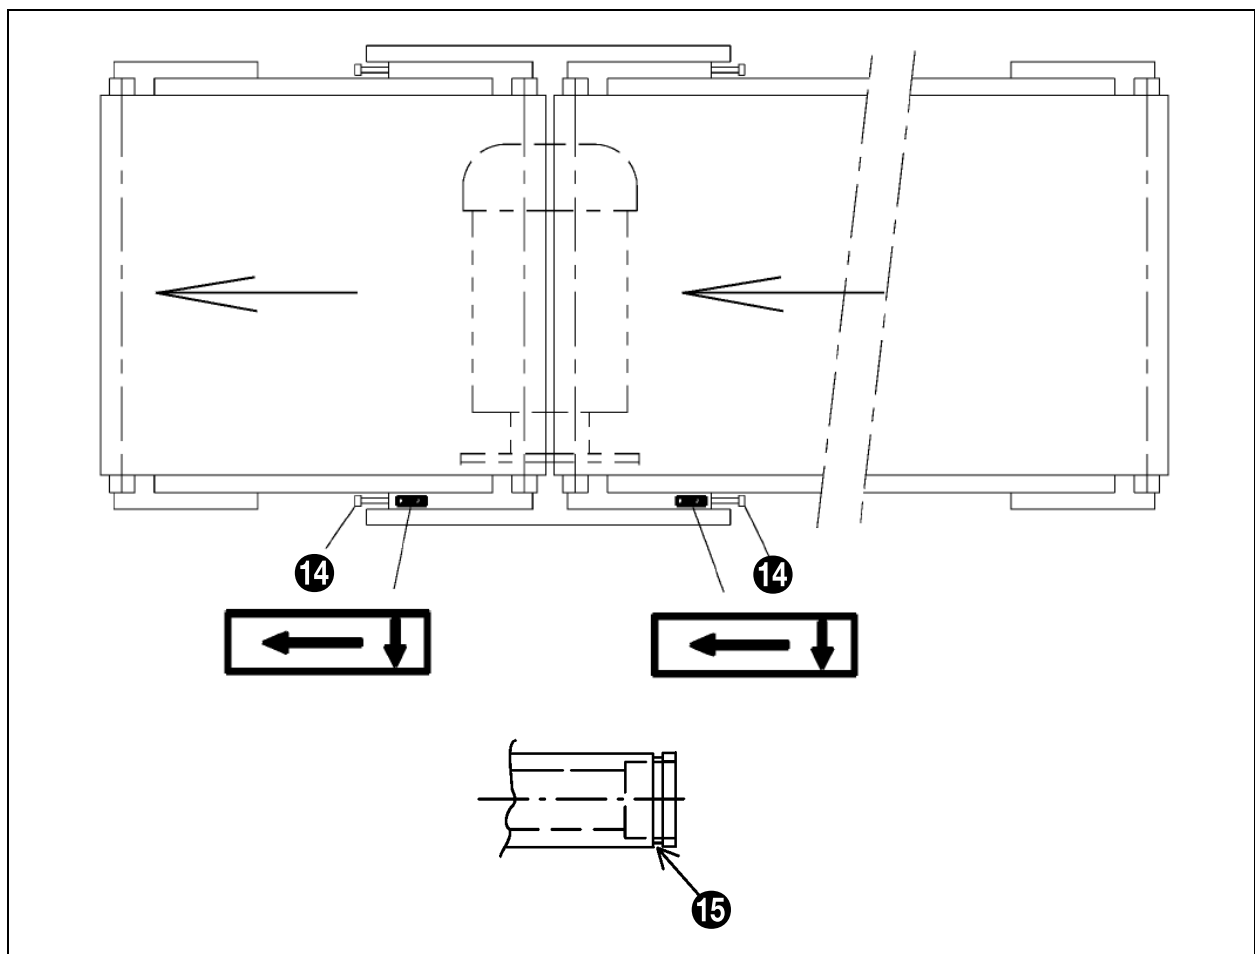

Fig. 216 - Alignment of the belts with bolts
Turning bolt (14) in the direction of the travel of the relevant belt will move the belt towards the sticker, see fig. 216.
Turning bolt (14) in the opposite direction from the direction of the travel of the relevant belt will move the belt away from the sticker, see fig. 216. See also the arrows on the stickers.
*Correct the alignment of the belt by turning bolt (14) inwards or outwards on only one side of the belt (on the side with the stickers!!).*
*Turning the bolt (14) by just a quarter of a turn will result in the alignment of the belt changing after operation for some time.*
*The rollers can be cylindrical and convex rollers. The alignment roller is always a cylindrical roller, and is located on the drive side. This roller can be identified by the groove in the roller, see (15) in fig. 216.*